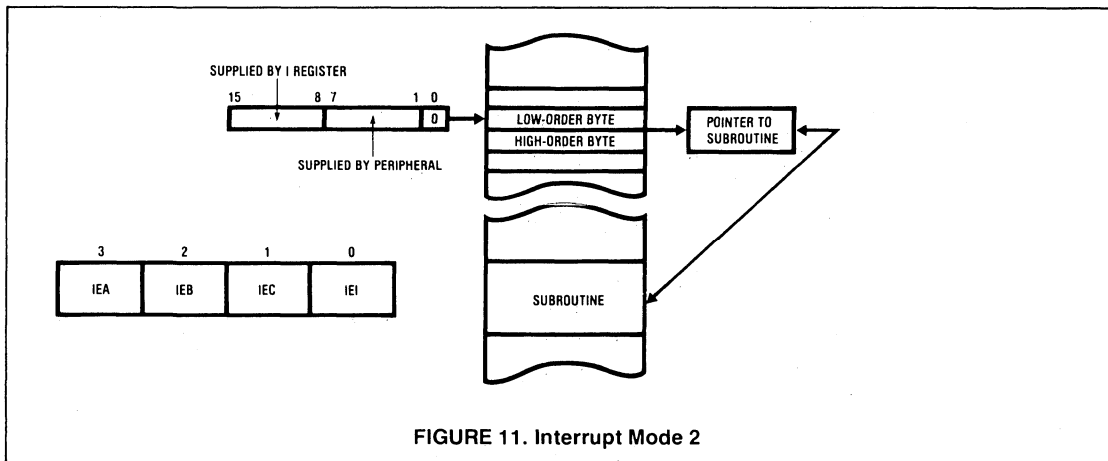

FIGURE 11. Interrupt Mode 2
**Interrupt (INTR) Mode 2:** With this mode, the programmer maintains a table that contains the 16-bit starting address of every interrupt service routine. This table may be located anywhere in memory. When the mode 2 interrupt is accepted (Figure 11), a 16-bit pointer must be formed to obtain the desired interrupt service routine starting address from the table. The upper 8 bits of this pointer are from the contents of the I register, which has been previously loaded with the desired value by the programmer. The lower 8 bits of the pointer are supplied by the interrupting device with the low-order bit forced to zero. The pointer is used to get two adjacent table bytes from the interrupt service routine starting address table to complete the 16-bit service routine starting address. The first byte of each entry in the table is the least significant (low-order) portion of the address. The programmer must obviously fill this table with the desired addresses before any interrupts are to be accepted.